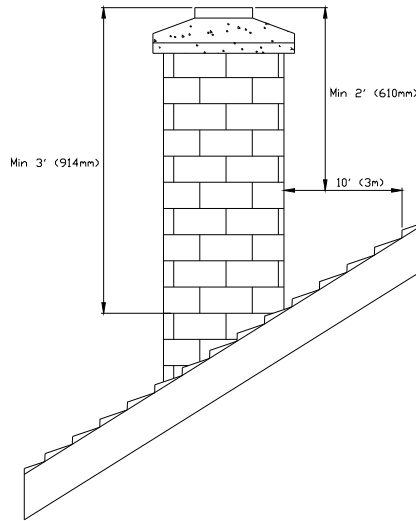

FIGURE 2.2 Minimum Height of the Chimney
- The chimney must rise above the roof at least 3' (0.9 m) from the uppermost point of contact. See Figure 2.2.
- The chimney must exceed any part of the building or other obstruction within a 10' (3.04 m) distance by a height of at least 2' (0.6 m). See Figure 2.2.